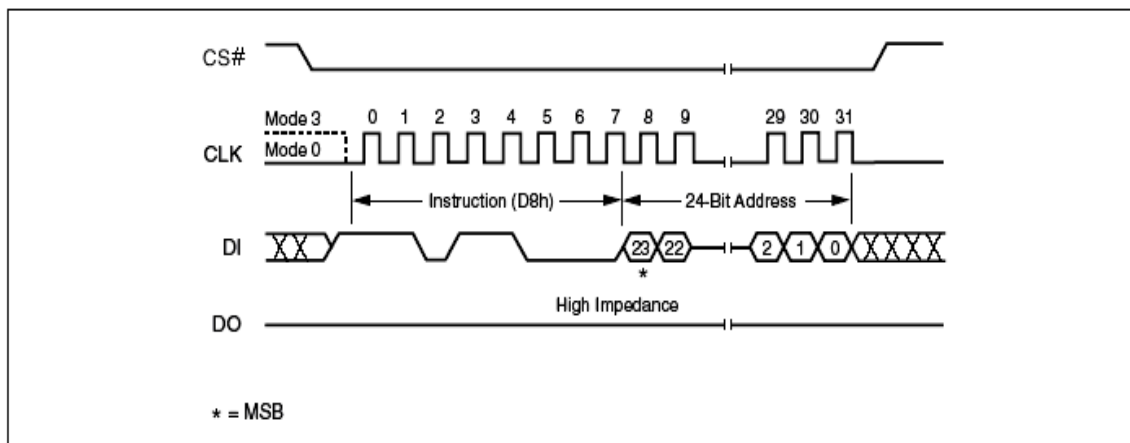

Figure 15. Block Erase Instruction Sequence Diagram
The instruction sequence is shown in Figure 15. Chip Select (CS#) must be driven High after the eighth bit of the last address byte has been latched in, otherwise the Block Erase (BE) instruction is not executed. As soon as Chip Select (CS#) is driven High, the self-timed Block Erase cycle (whose duration is t_{BE}) is initiated. While the Block Erase cycle is in progress, the Status Register may be read to check the value of the Write In Progress (WIP) bit. The Write In Progress (WIP) bit is 1 during the self-timed Block Erase cycle, and is 0 when it is completed. At some unspecified time before the cycle is completed, the Write Enable Latch (WEL) bit is reset.